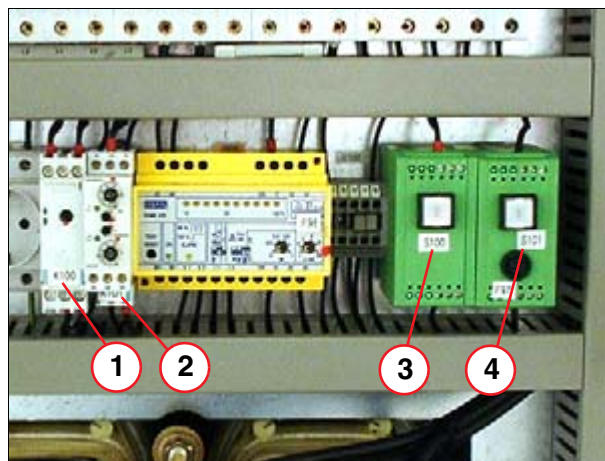

Fig. 3: K100 and K101
If the status of the LEDs is o.k., press the S100 test key (3/Fig. 3 / p. 23) and hold for at least 2 seconds.
If the LED's status is o.k., press the S101 test key (4/Fig. 3 / p. 23) and hold for at least 2 seconds.